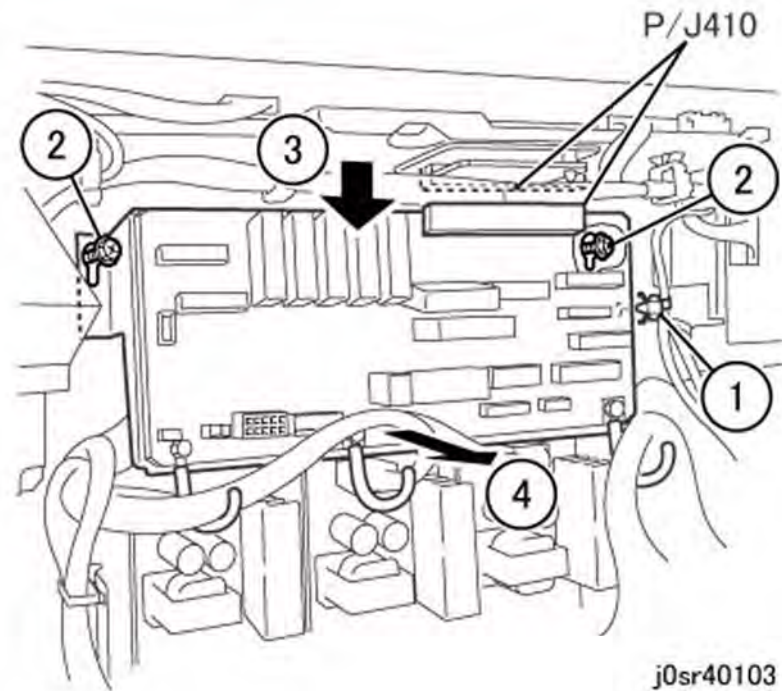

Figure 3 Removing the I/F (MDD) PWB Assembly
6. Remove the I/F (MDD) PWB Assembly (Figure 3).